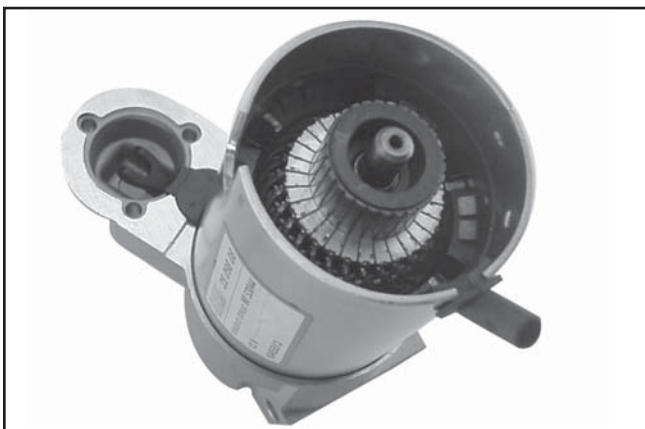

Figure 8-58. Installing Frame and Drain Tube.
8. Install the frame, with the small notch forward, onto the armature and drive end cap. Align the notch with the corresponding section in the rubber grommet. Install the drain tube in rear cutout, if it was removed previously. See Figure 8-58.